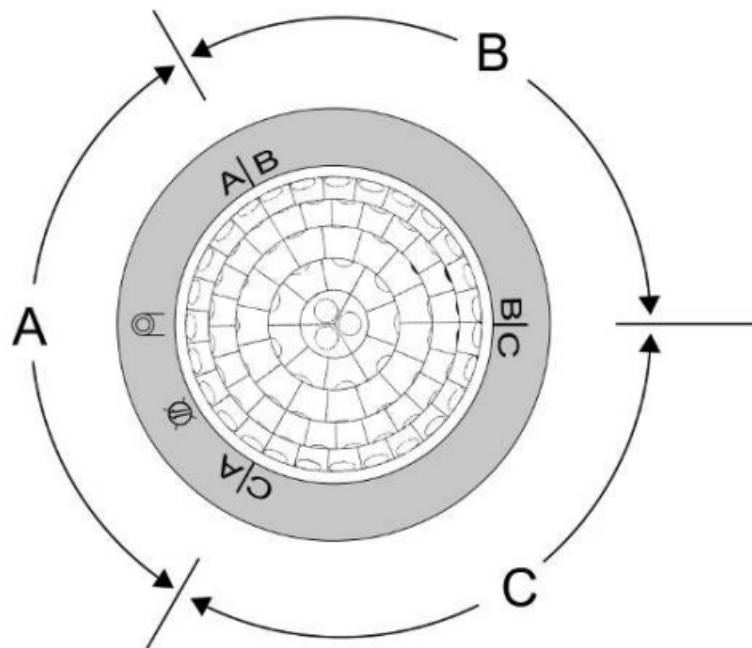

Figure 6: Arrangement of the areas A, B and C
Align the connection box (1) in such a way that the areas A, B and C match the structural conditions. The arrangement is clearly evident under the decor ring (see figure 6).